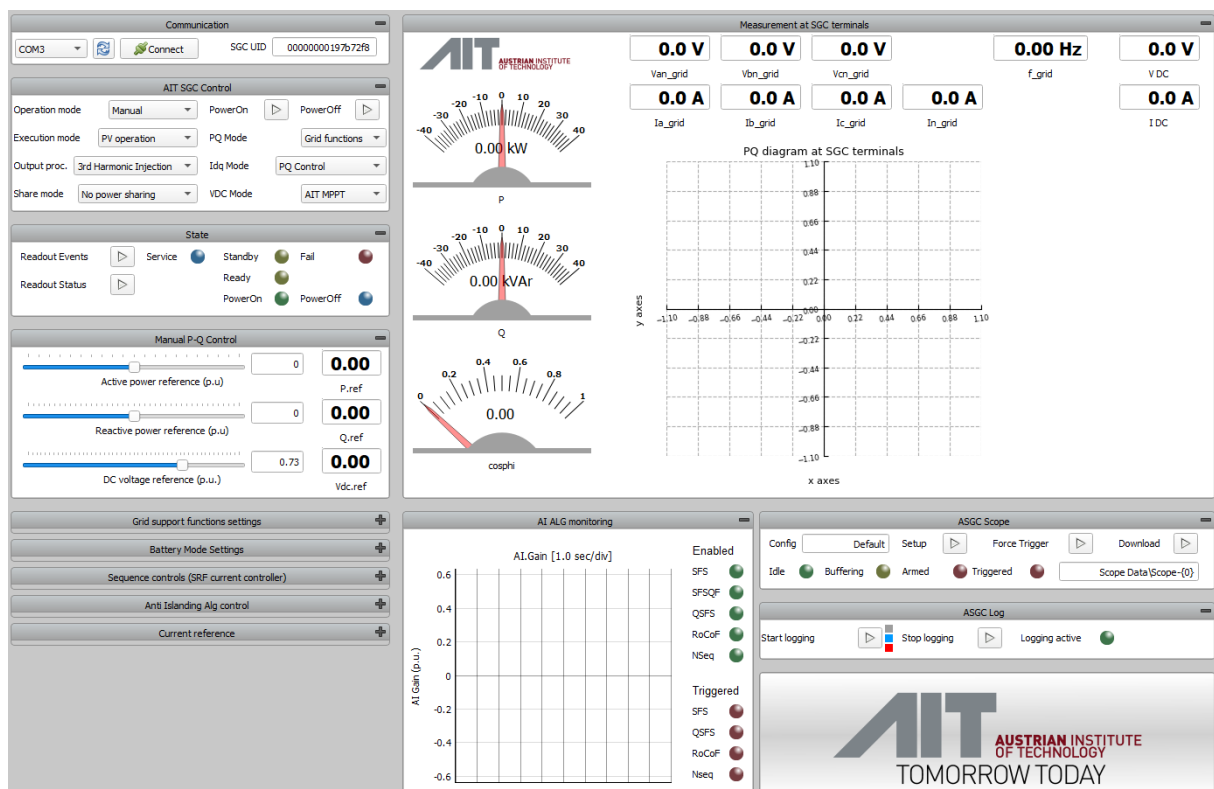

Figure 7 SGC GUI
5. Load the latest SGC GUI. *Figure 7* shows a typical SGC GUI (appearance of the latest SGC GUI might be somewhat different) .